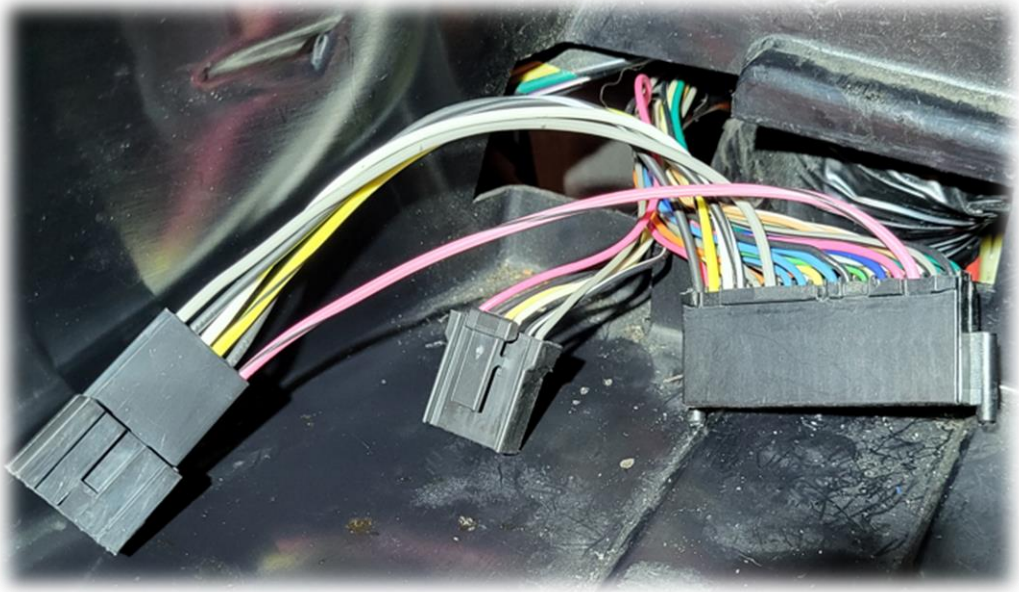

Figure 19
18. The rest of the wires can be completed using the same steps and method as mentioned above in steps 13-17. The only difference is the wire location to be removed and installed. The wire colors are unique. Go slowly, carefully and wire by wire to ensure accuracy of work. When you are finished the connectors and wiring will look as in figure 19, 20, and 21. **DOUBLE CHECK YOUR WORK!!**. No wires should be loose.